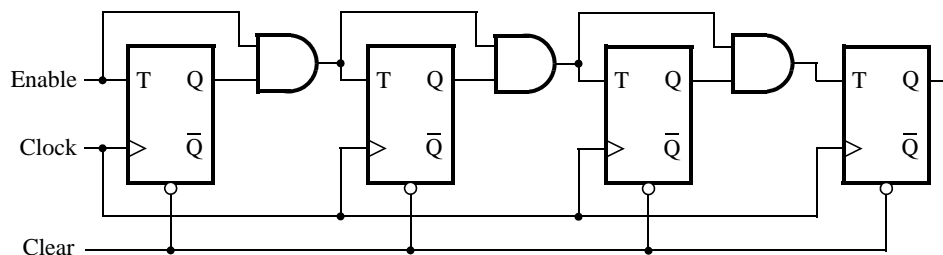

Figure 1: A 4-bit counter.
Consider the circuit in Figure 1. It is a 4-bit synchronous counter which uses four T-type flip-flops. The counter increments its value on each positive edge of the clock if the *Enable* signal is asserted. The counter is reset to 0 by setting the *Clear* signal low. Note that the *Clear* signal is a *negative, asynchronous* reset. Consult the lecture slides for more on synchronous vs asynchronous behaviour.
Again, consider the circuit in Figure 1. **PRELAB TODO:** You are to implement a 4-bit counter of this type.
1. Write a Verilog file that defines a 4-bit counter by using the structure depicted in Figure 1. You will want to use CLOCK_50 as your input for the clock, which is the built-in 50MHz clock built into your DE2 pin assignments.
4. Implement a 4-bit version of your circuit and use the Quartus II RTL Viewer to see how Quartus II software synthesized your circuit. What are the differences in comparison with Figure 1?